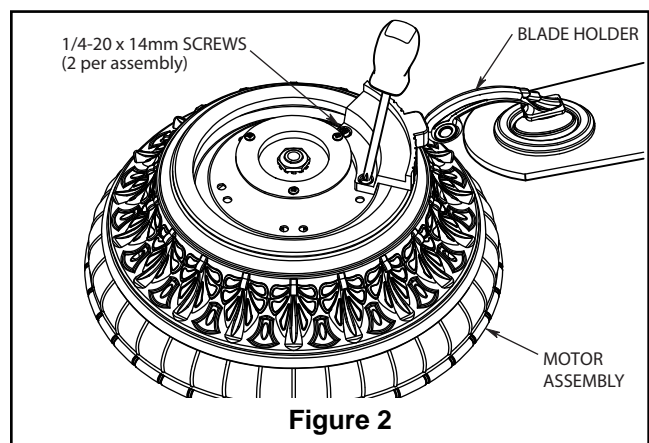

Figure 2
2. Secure the blade holders to the motor support using the 1/4-20 x 14mm screws through the holes located on the bottom of the motor support (Figure 2).